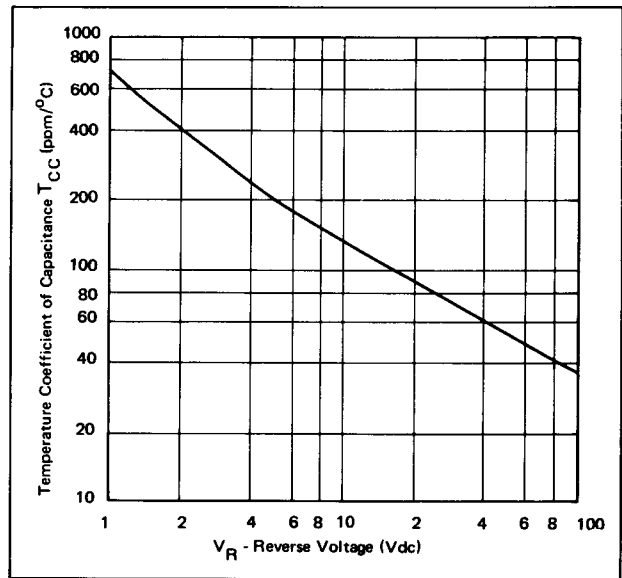

Figure 3-6. Temperature Coefficient of Capacitance vs. Tuning Voltage — Abrupt Junction Diode
For an abrupt junction diode which has a constant value of n, (0.5), the temperature coefficient is a smooth curve of the form $\frac{K}{v + \phi}$. However, in the case of hyperabrupt diodes n is a function of voltage, and the shape of the T_{CC} curve depends on the details of the n(V) curve. A typical T_{CC} curve for an abrupt junction diode is shown in Figure 3-6 and for an Alpha DKV6520